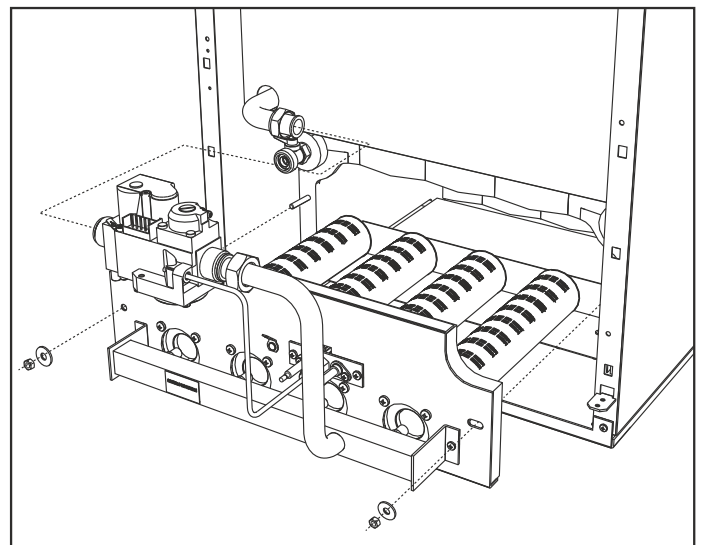

fig. 20 - Removing the burners
- Undo the two nuts fixing the combustion chamber door to the cast iron elements of the boiler (fig. 20)